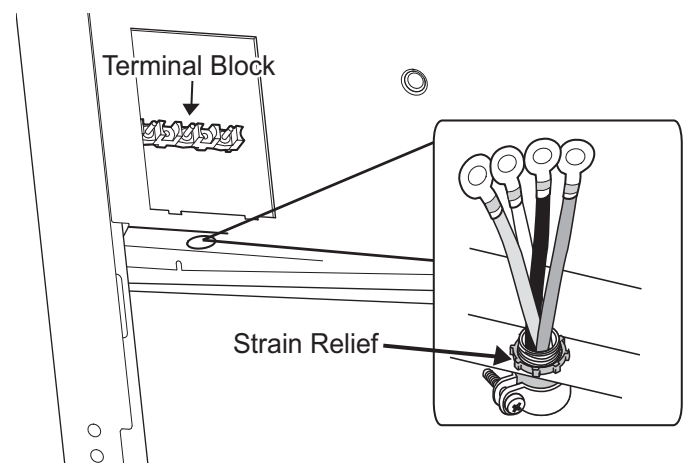

Figure 9: Strain Relief Location
Locate the terminal block on the rear of the unit and remove cover (refer to *Figure 9*). The conduit must be installed to the terminal block using an approved conduit connector. The free end of the conduit must be connected to a terminal block provided in the electrical supply zone, as shown in *Figure 4 on page 8*.
Mount a strain relief (not provided) into the 1" (25.4 mm) diameter hole located below the terminal block (see *Figure 9*). Wiring for the unit is to be brought into the terminal block through the conduit and through the strain relief. The ends of the wiring must have 1/4" (6 mm) faston closed-loop lugs attached, preferably soldered in place. Make the connections to the terminal block provided.
1. Locate the terminal block on the rear of the unit and remove cover (see *Figure 9*).